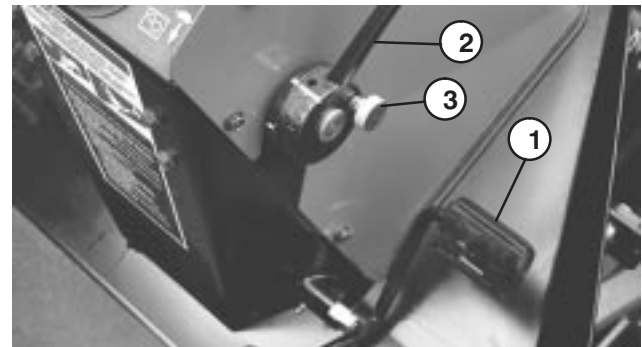

Figure 12
Traction Pedal (Fig. 12) — Controls forward and reverse operation. Depress top of pedal to move forward and bottom to move backward. Ground speed depends on how far pedal is depressed. For no load, maximum ground speed, fully depress pedal while throttle is in FAST. For maximum power under load or when going uphill, keep engine rpm high by having throttle in FAST and traction pedal partially engaged. If engine rpm begins to decrease due to load, gradually reduce traction pedal pressure until engine speed is increased.
Axle Shift Lever (Fig.12) — Located on right side of console, lever selects front drive mode. Pull out lockout knob, move lever rearward for mowing operation and forward for transport operation, then release knob to lock selection. Lever must be in LO position to mow. Middle position (N) is for towing.